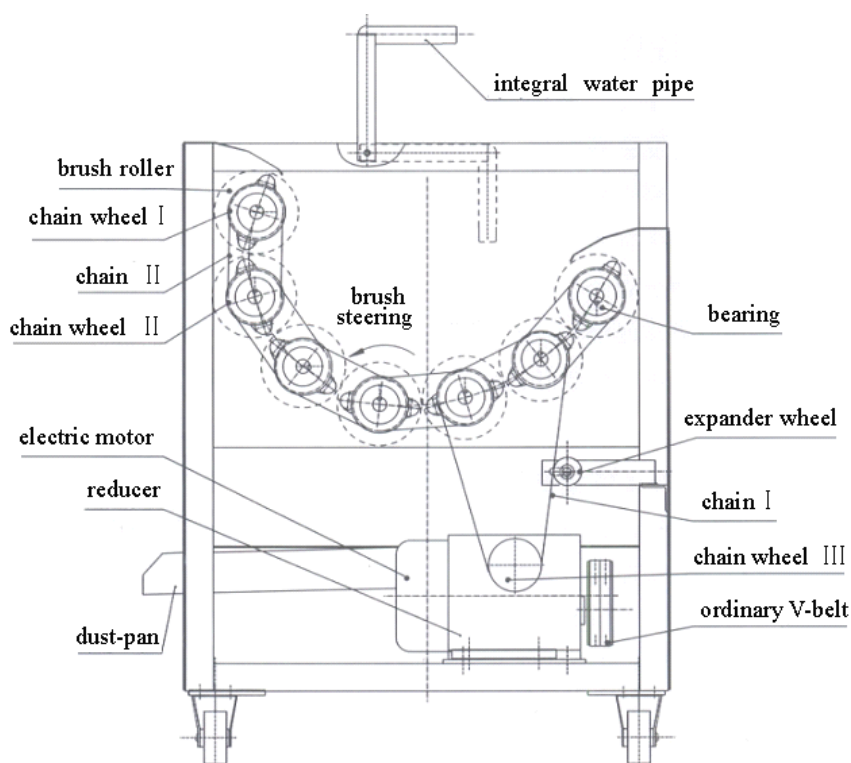

Fig.1 Schematic diagram of transmission structure
2.1.1 This machine mainly consists of machine frame, brush roller, turbine reduction gearbox, chain wheel, chain, and integral water pipe, etc. (Fig. 1)
The transmission system of this machine adopts belt, chain wheel and many other forms of transmission. As shown in Fig. 1.
5.4 Invite a professional electrician to connect the power code. Elongate the soft power cord and ground olive wire with power port, connect the rest two cores to the education line terminals of breaker with a capacity of 10A (user prepare), respectively. The breaker should be fixed reliably and firmly. Close the breaker, the brush roller should rotate in the same direction as shown in Fig.1. Operate test with no load.